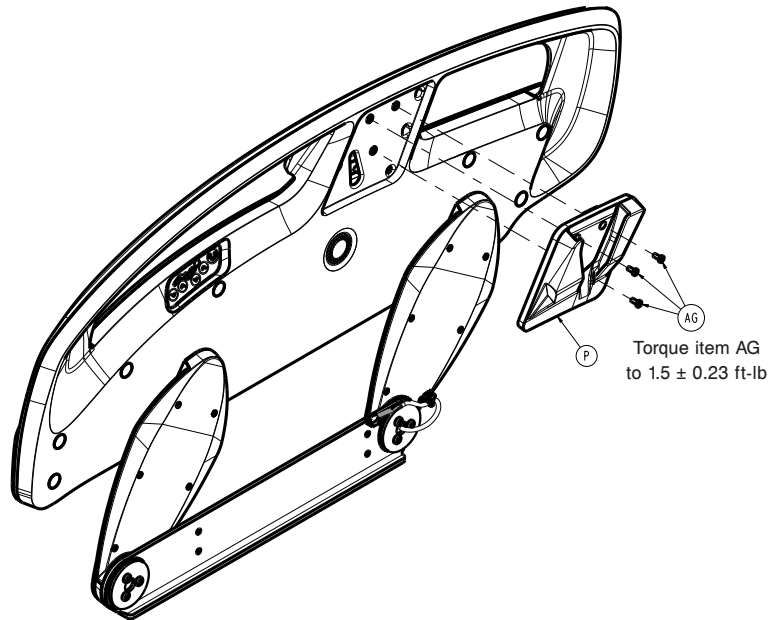

Figure 51 – Replacing the siderail control board
7. Using a pick, remove the label from the siderail in the patient belongings bracket (P) (Figure 51). Discard the label.
8. Using a 1/8" hex driver, remove the three screws (AG) that secure the patient belongings bracket (P) to the siderail hoop (Figure 51). Save the screws. Remove and save the patient belongings bracket.
8. Using a 1/8" hex driver, remove the three screws (AG) that secure the patient belongings bracket (P) to the siderail hoop (Figure 51).